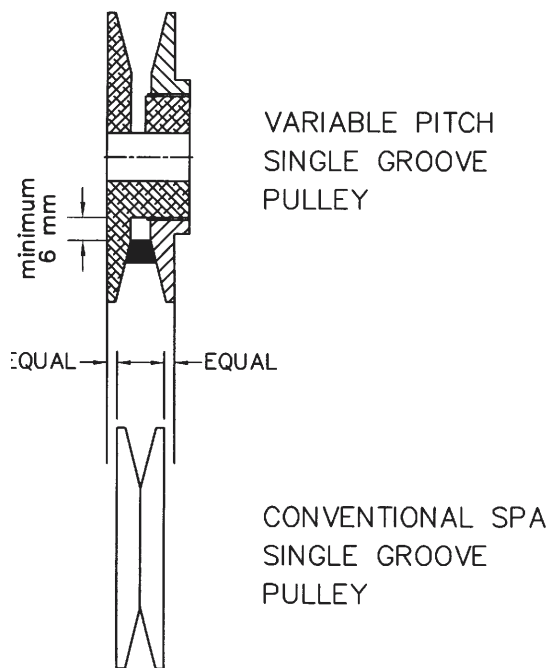

FIG.2
6. Re-align the belts using the pulley faces as a guide, refer note and figure 2 below in troubleshooting guide
Be careful not to slow the fan down too much. Rotating the moveable flange anti-clockwise too far will "bottom" the belt and it will not sit properly in the groove. This will cause rough running and early belt failure. Also the moveable flange will only be held on by a thread or two. A minimum clearance of 6 mm is required between the bottom of the cog belt and the bottom of the pulley groove. See figures 2 and 3.
Single and Double groove pulleys should be aligned using the outside faces, noting that the variable pitch pulley faces will most likely be wider than the standard fixed pulley, allowance should be made for this so that the belt/belts, is/are centralised. See figures 2 and 3.